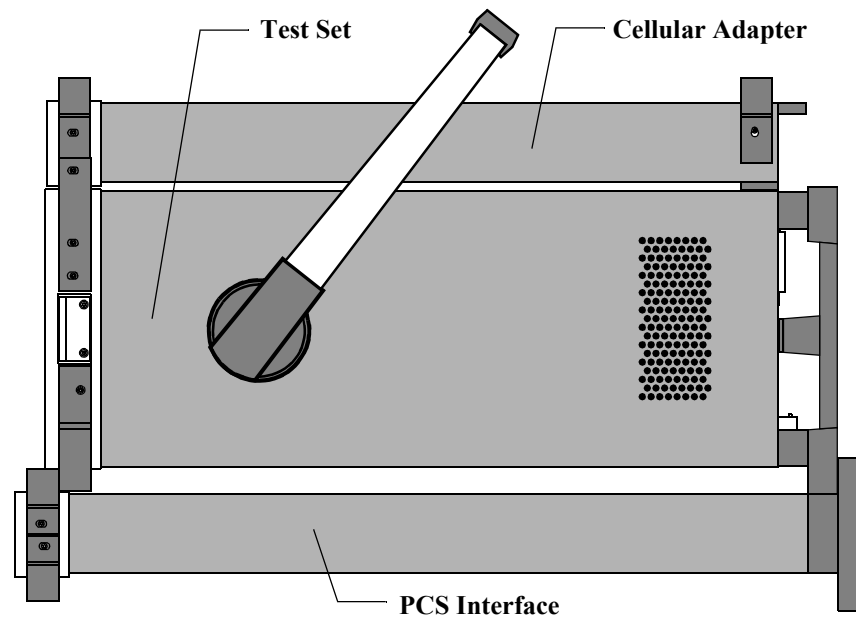

Figure 10
- a If you are placing the Test System horizontally (on a bench top, for example) place the Test Set (together with the Cellular Adapter) on the top of the PCS Interface. Position the bumpers (feet) of the Test Set so that they are stably seated between the forward and rear bumpers of the PCS Interface. Refer to figure 10.